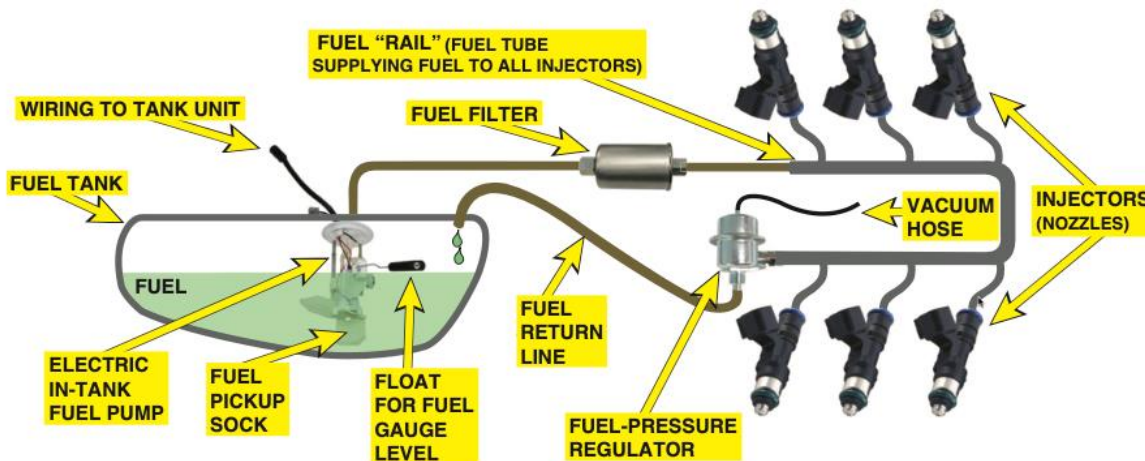

Figure 1. Typical port fuel injection system.
- Fuel-injector nozzle or nozzles which are basically 12-volt solenoids. Fig. 1.